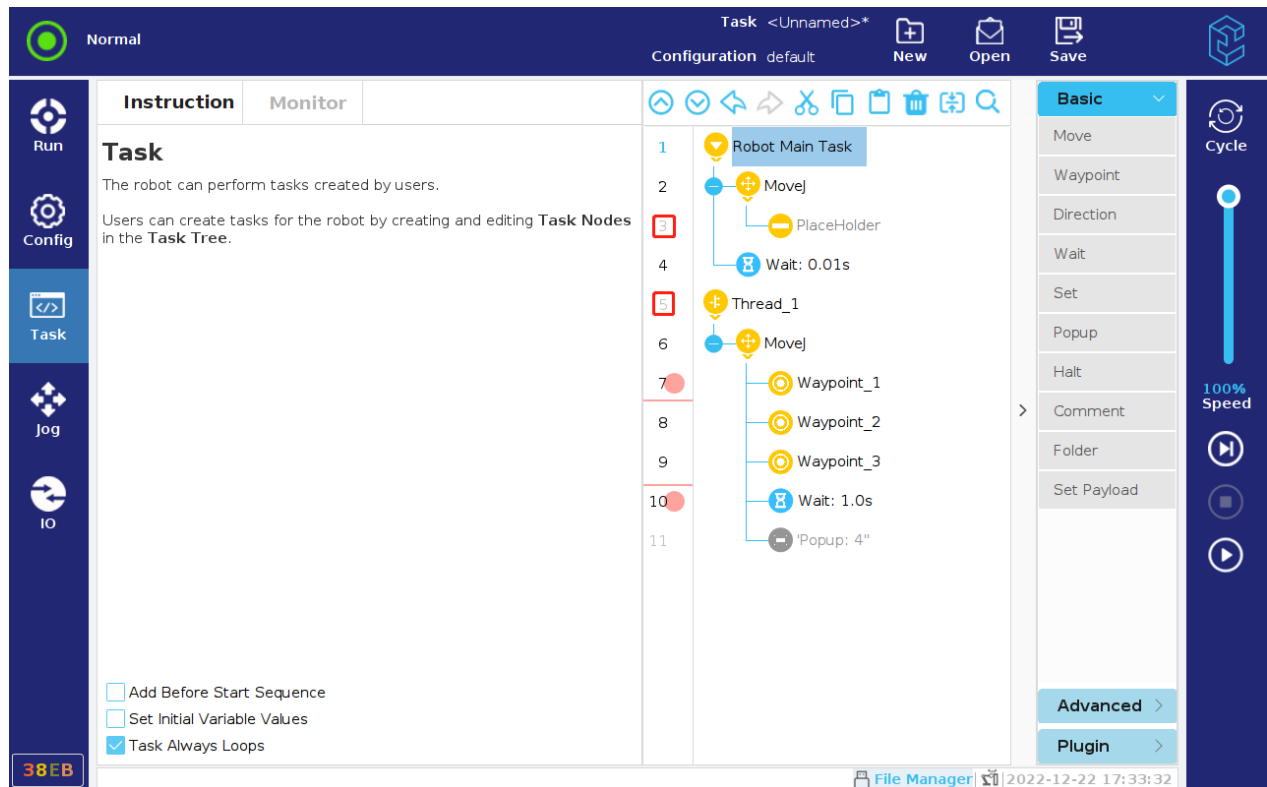

Figure 12-37 Breakpoint
- If these nodes are selected, the line number goes to light blue (see the line number “5” in Figure 12-37);
- If they are not selected, the line number is marked as light grey (see the line number “3” in Figure 12-37).